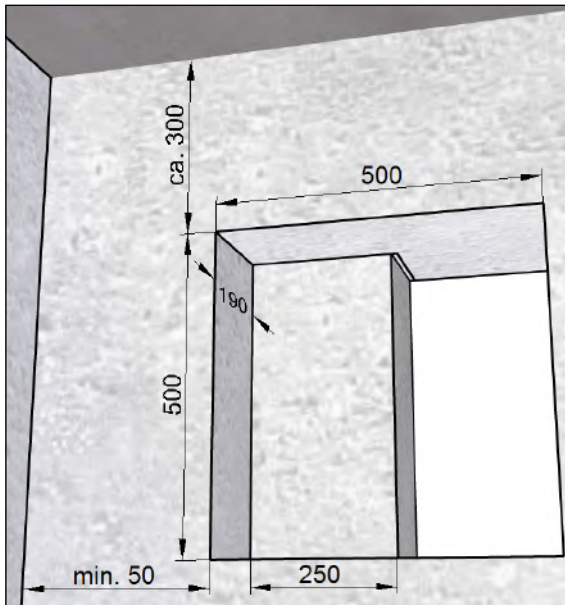

Fig. 10: Wall breakthrough for installation kit **without** filler piece, dimensions in millimetres
- Wall breakthrough with recess (see Fig. 10 on page 17) for installation kit **without** filler piece M-WRG-M/Fü